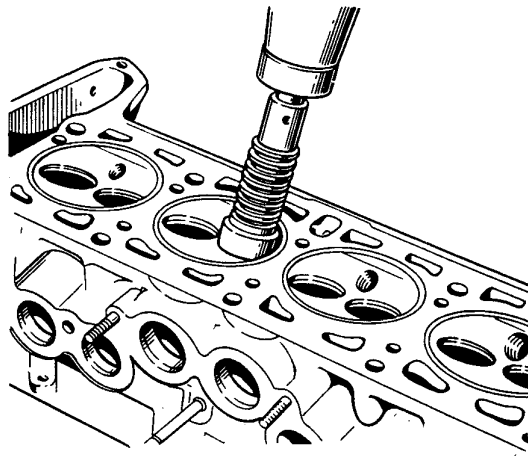

Fig. 2-45. Valve Seat Refacing
- put spring A.94069/5 on pilot spindle A.94059, install tapered wheel A.94078 (for exhaust valve seats) or wheel A.94100 (for inlet valve seats) on spindle A.94069, secure the spindle in the grinding machine and reface the valve seat (Fig. 2-45).